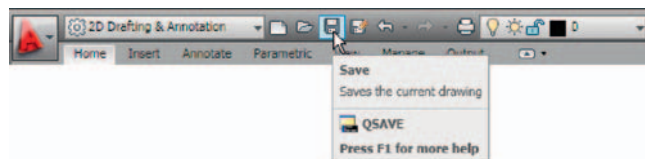

Fig. 1.28 Click Save
- Click* the **Save** icon in the **Quick Access** toolbar (Fig. 1.28). The **Save Drawing As** dialog appears. In the **Files of type** popup list select **AutoCAD Drawing Template (\*.dwt)**. The templates already in AutoCAD are displayed in the dialog. *Click* on **acadiso.dwt**, followed by another *click* on the **Save** button.